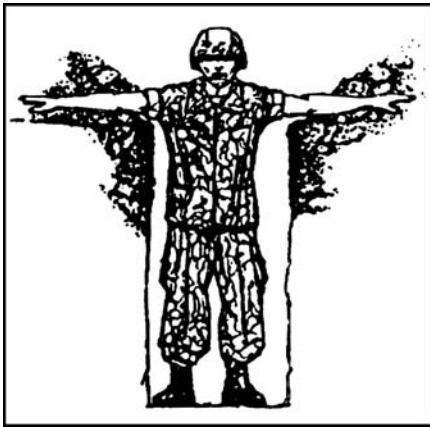

Figure 071-326-5703-3. Fighting position armpit deep
- (1) Make the foxhole armpit deep (figure 071-326-5703-3).